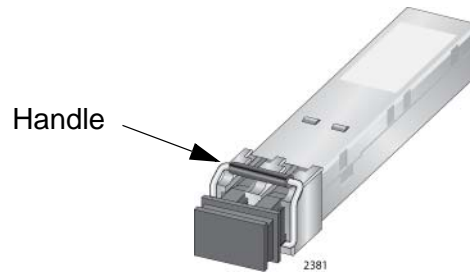

Figure 101. Handle on SFP Transceiver
3. To install the transceiver in an SFP slot on the top row of the line card, orient the transceiver with the handle on top, as shown in Figure 101. To install it into a slot on the bottom row of the line card, orient it with the handle on the bottom.